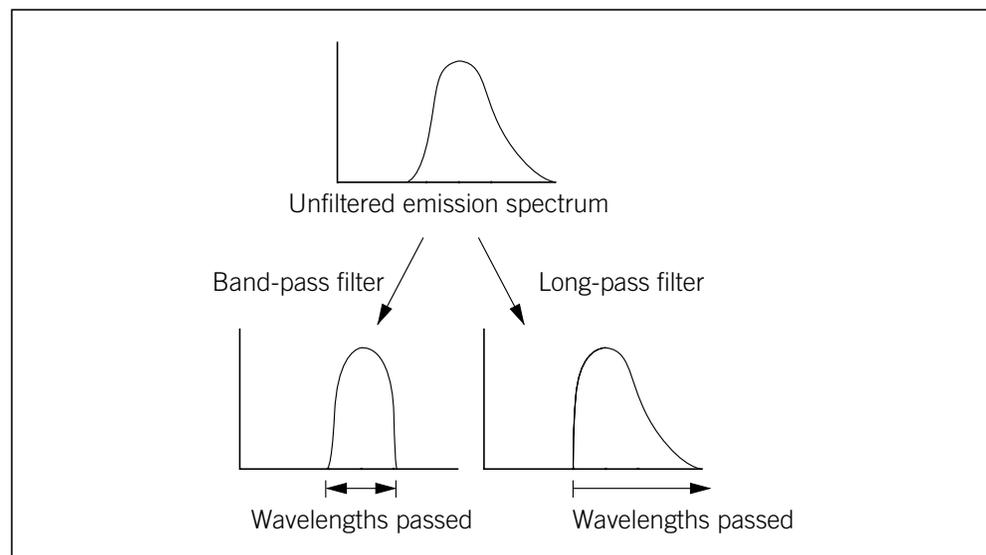

Figure D-5. Effect of band-pass and long-pass filters on light passing through the filter.
- **Band-pass**—Rejects most of the light with wavelengths shorter than a specified cutoff and longer than a second specified cutoff. Allows light of wavelengths between the two cutoffs to pass through (figure D-5).
- **Long-pass**—Rejects light with wavelengths shorter than a specified cutoff and allows light of longer wavelengths to pass through (figure D-5).